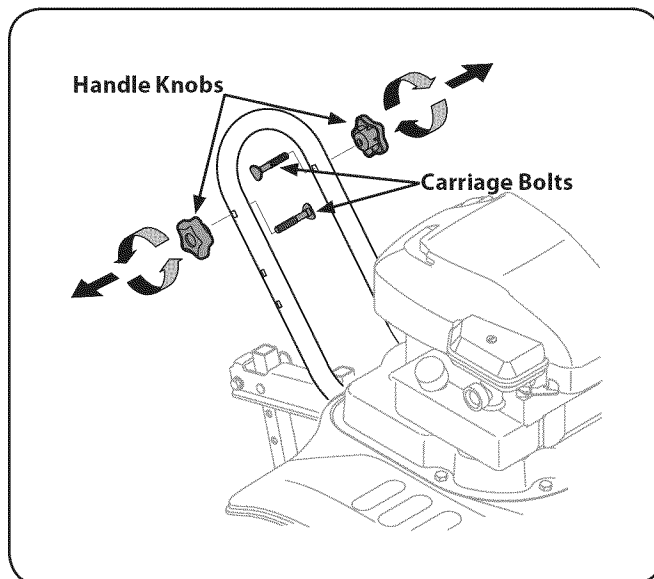

Figure 3-1
1. Remove the star handle knobs and the carriage bolts from the lower handle. See Fig. 3-1.